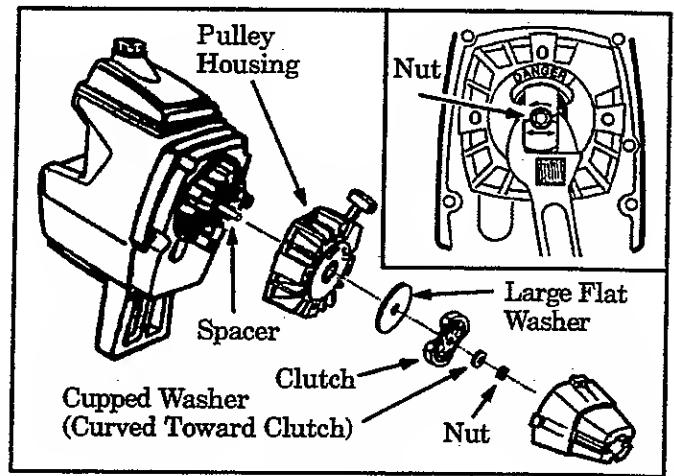

Figure 27
8. Hold the "Flats" of the clutch with an adjustable wrench. Figure 27 (inset). Remove the nut counterclockwise with a wrench.
9. Remove the cupped washer, clutch, and large flat washer as shown in Figure 27.
10. Remove pulley housing from engine. Figure 27.
24. Make sure spacer is in place. See Figure 27. Reverse steps 1 through 10 to re-assemble.